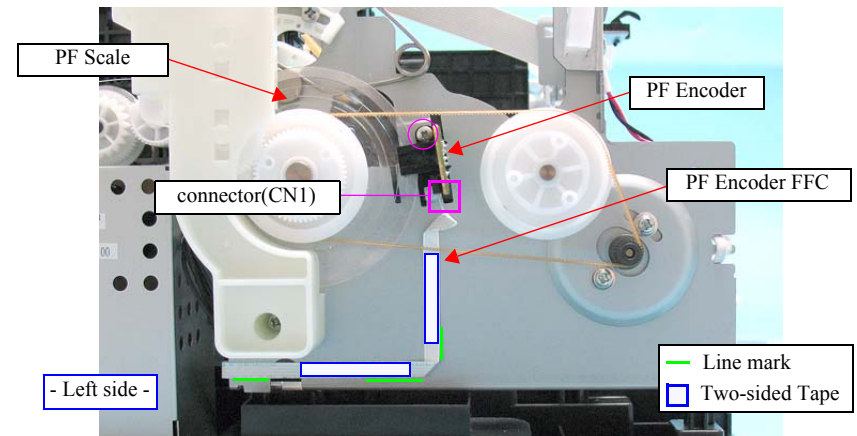

Figure 4-217. Removing the PF Encoder
- Attach the PF Encoder FFC along the line marks shown in Figure 4-217 and below.